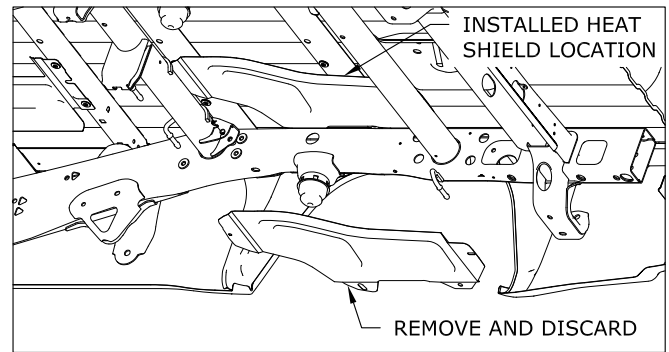

Figure A2: View Under Bed Looking at Heat Shield Removal Area
5. **Remove heat shield.** Locate and remove the heat shield directly over the exhaust between the two bed cross member that are above the rear axle, see Figure A2.